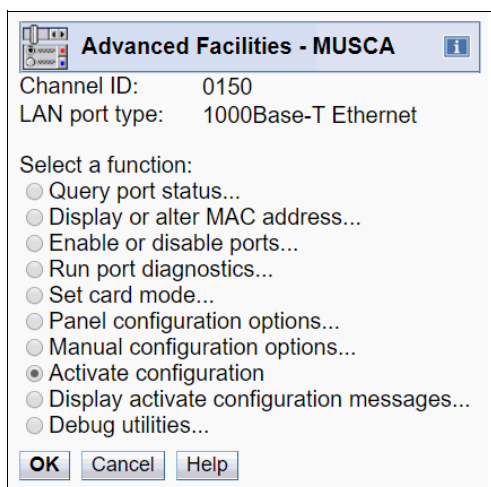

Figure 6-17 OSA/SF on the HMC: Activate configuration
13. To activate your OSA configuration, select **Activate configuration** from the Advanced Facilities window, and click **OK** (see Figure 6-17).